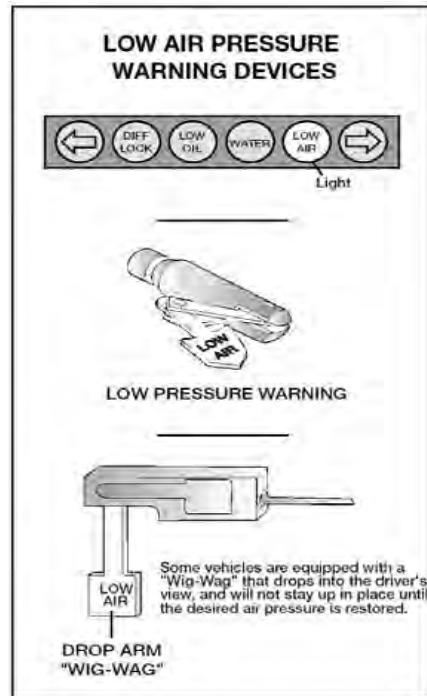

FIGURE 5.5
**Test Low Pressure Warning Signal.** Shut the engine off when you have enough air pressure so that the low pressure warning signal is not on. Turn the electrical power on and step on and off the brake pedal to reduce air tank pressure. The low air pressure warning signal must come on before the pressure drops to less than 60 psi in the air tank (or tank with the lowest air pressure, in dual air systems). See Figure 5.5.